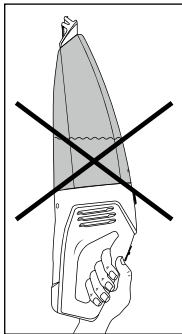

Fig. 3
- ▶ If you carry the appliance horizontally or with the wet suction nozzle **1** pointing upwards, it is possible that liquid can leak out (see fig. 3 and 4):